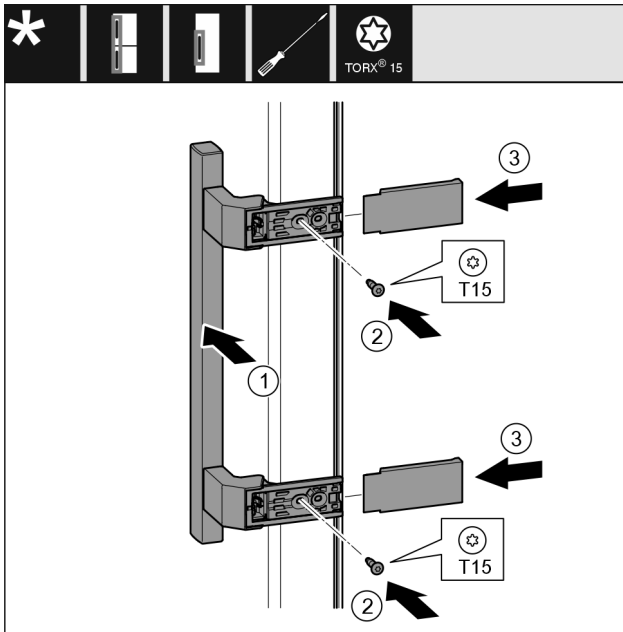

Fig. 35
- ▶ Place the handle Fig. 35 (1) on the opposite side.
- ▶ Tighten screws Fig. 35 (2) with screwdriver.
- ▶ Place the covers Fig. 35 (3) on the side and push them on.